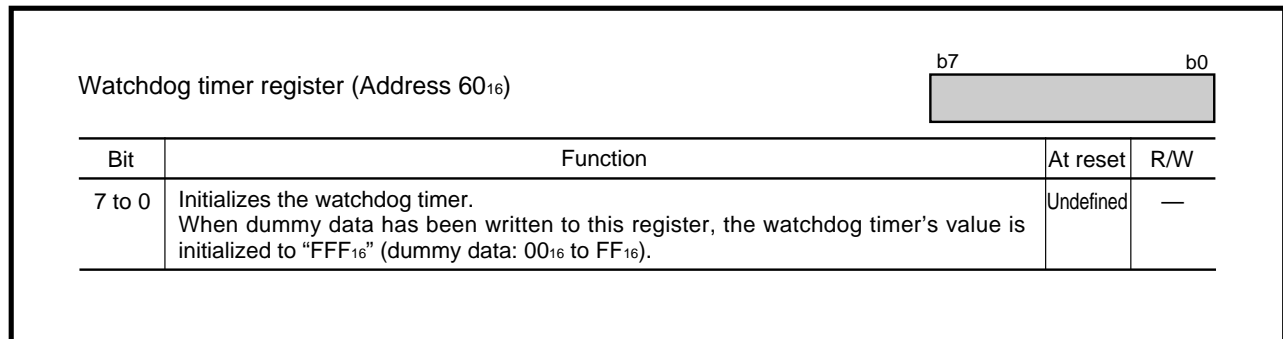

Fig. 14.1.2 Structure of watchdog timer register
Figure 14.1.2 shows the structure of the watchdog timer register.
- When dummy data is written to the watchdog timer register. (See Figure 14.1.2.)